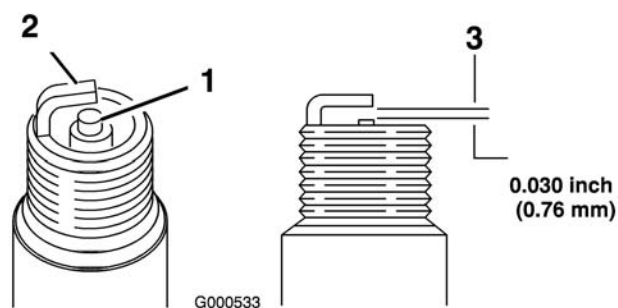

Figure 48
- Look at the center of the spark plugs (Figure 48).
- Check the gap between the center and side electrodes (Figure 48) and bend the side electrode, if the gap is not correct.